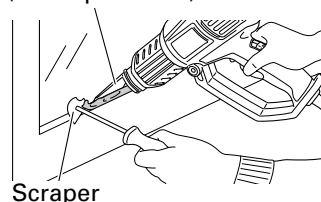

Fig. 10
5. Removing putty from window frames (Fig. 10)